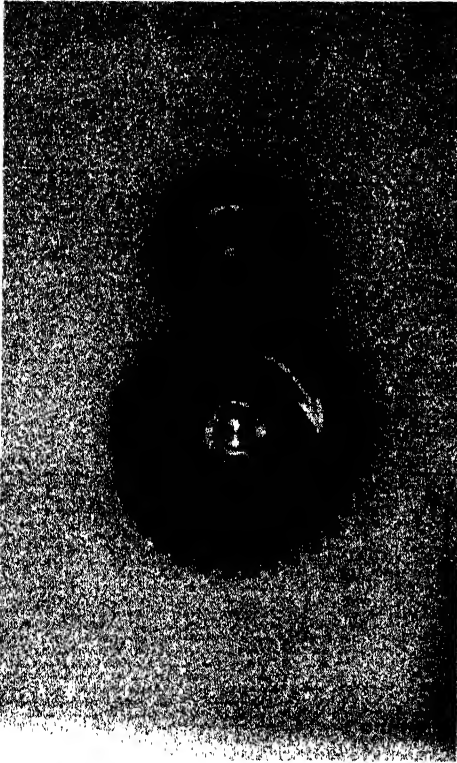

FIG. 133A. SPUR GEARS - NO IDLERS
Arrange the wheels in the combinations shown in Fig. 133A.
1. How many turns did the driver (B) make in moving the driven gear (A) through one complete revolution?
Place an arrow on the driven gear (A) (Fig. 133A) to indicate the direction in which it turns.
2. The driven gear (A) turned in the (same, opposite) direction as the driver (B).